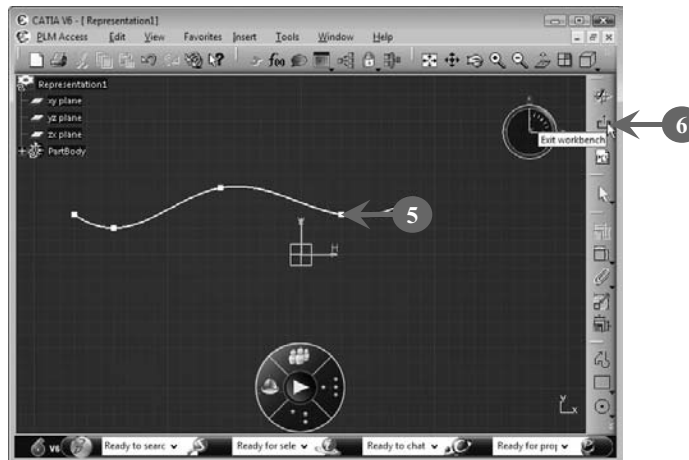

FIGURE 5.66
5. Draw a spline, which works as the guide curve along the profile that is to be swept (Figure 5.66).
6. Click the **Exit workbench** button on the **Workbench** toolbar to exit the Sketcher workbench, as shown in Figure 5.66: